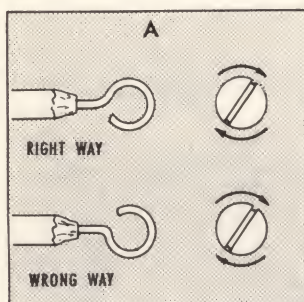

FIG. 9—MAKING SCREW TERMINAL CONNECTIONS
**SCREW TERMINAL CONNECTIONS.** Fig. 9 illustrates two correct methods for fastening a wire to screw terminals on outlets, switches and other electrical equipment. Connections are made at the end of the wire or in the middle of a continuous length. About  $\frac{3}{4}$  in. of wire is stripped clean of insulation for making connections. Fig. 9-A shows how end of wire is bent into a loop and inserted under screw. Tightening of the screw clockwise secures the loop tightly. A continuous wire loop is fastened to a terminal as shown in Fig. 9-B.